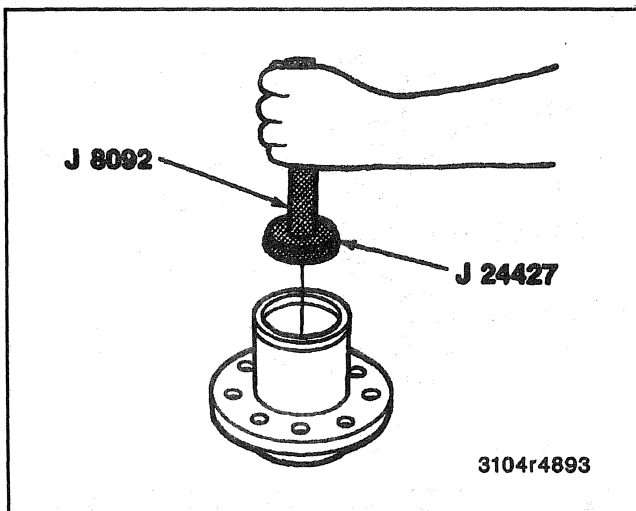

Figure 32—Installing Inner Bearing Cup
3. Inner bearing cup using J 8092 and J 24427 (Figure 32).